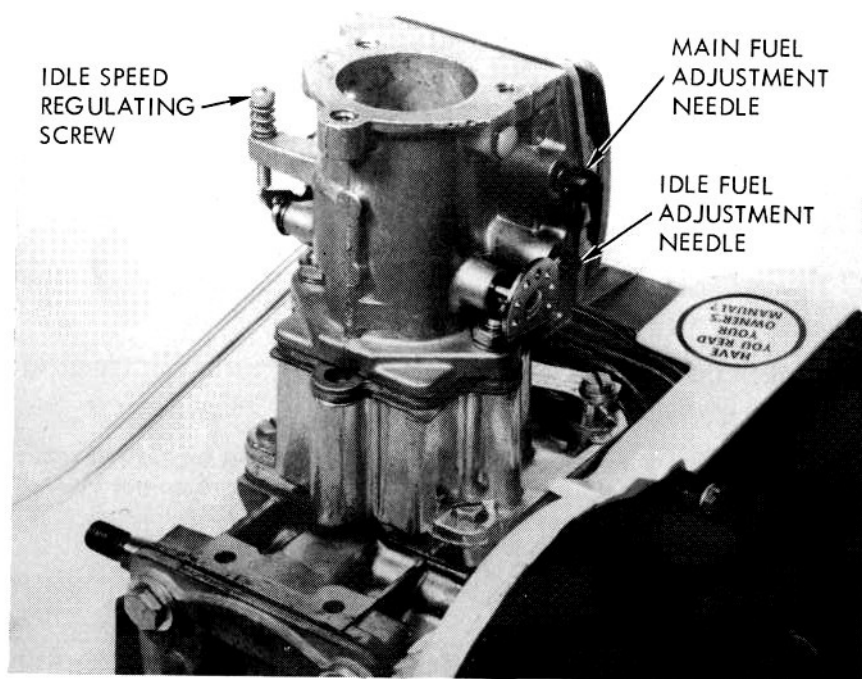

FIGURE 6
1. Close the main and idle fuel adjustment needles (turn clockwise) until they just seat (Figure 6).
2. Open the main fuel adjustment needle (turn counterclockwise) 1-1/2 to 2 turns. Open the idle fuel adjustment needle 1 to 1-1/4 turns (Figure 6).